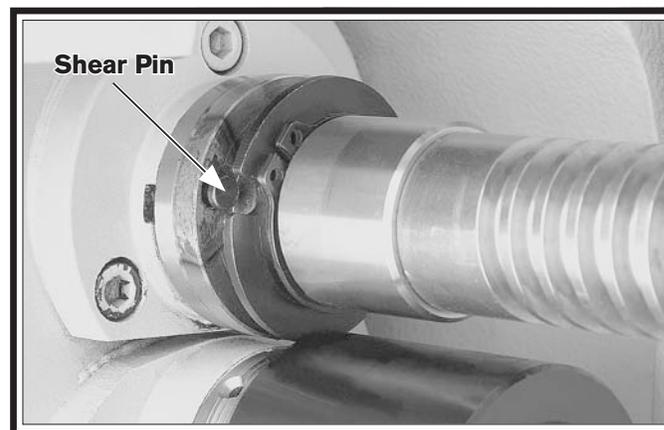

Figure 136. New shear pin installed in bore.
9. Put a drop of oil in the hole, then insert the new shear pin into the bore, as shown in **Figure 136**.